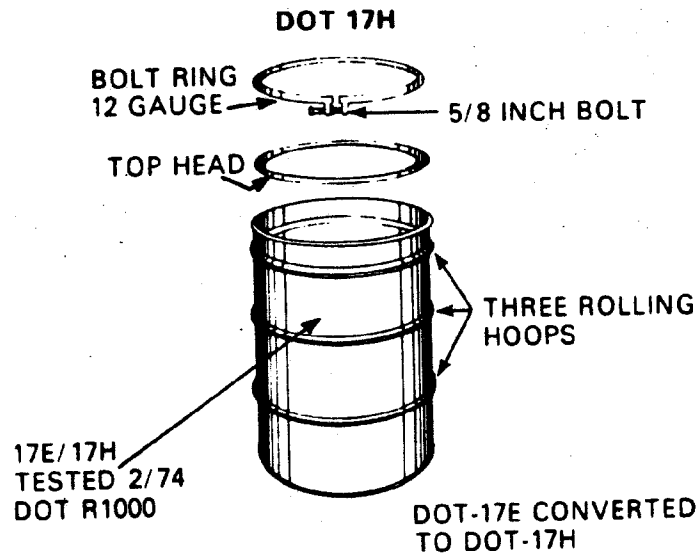

Figure 2 DOT-17E Converted to DOT-17H
- b. Any drum meeting one specification which has been altered to meet another specification must be capable of meeting the new specification in all respects. Drums converted to meet another specification must bear the original specification markings. (See Figure 2)